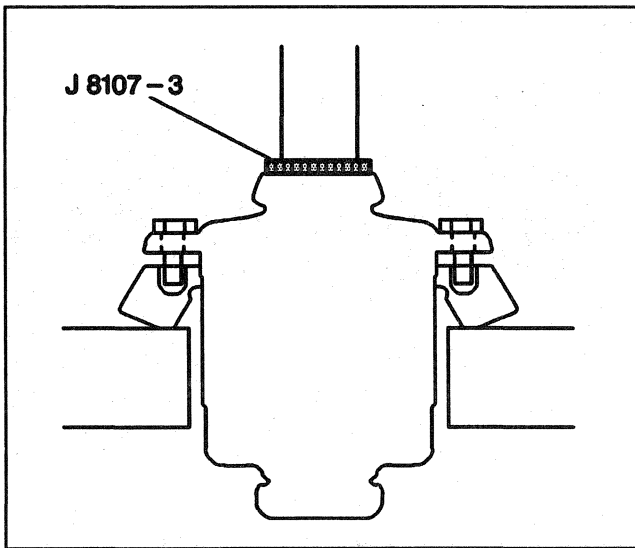

Figure 20—Installing the Ring Gear to the Case
- C. Press the ring gear onto the case far enough to start the bolts using J 8107-3 to protect the differential from the press ram (Figure 20).